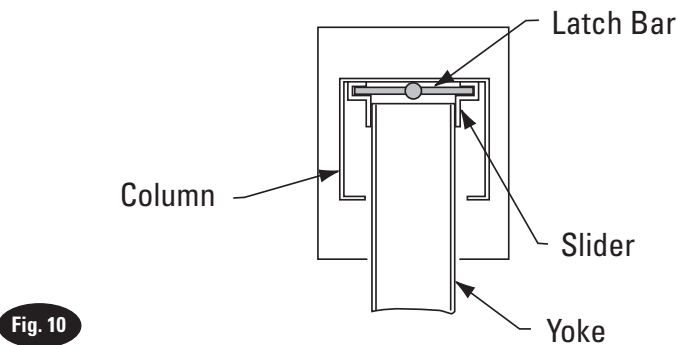

Fig. 10
- B. Move column towards yoke until the sliders contact the back of column, center yoke in column, Fig. 10.